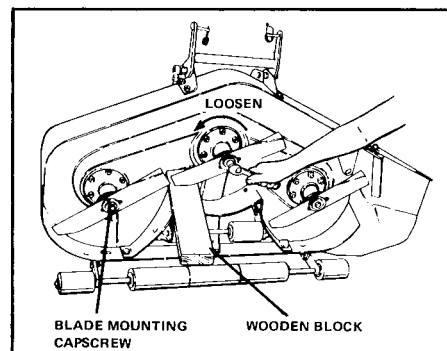

Figure 13. Loosen Blade
3. To remove blade for sharpening, use wooden block to hold blade while removing its blade mounting cap screw (figure 13).